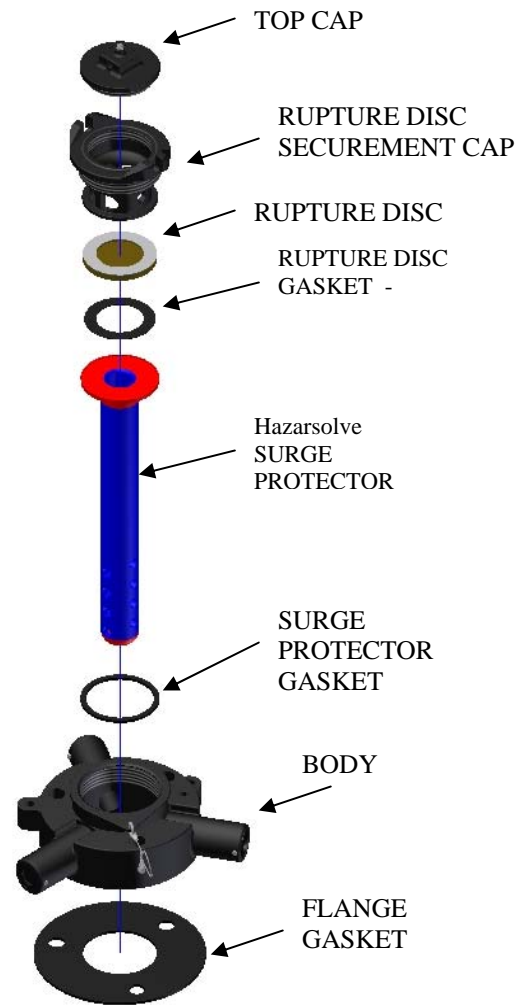

Figure 1
- a. Thoroughly inspect both sides of the rupture disc (Figure 1). Replace disc if it is missing a white gasket or clear Teflon gasket, any signs of discoloration, if the disc is blown or any other suspect condition.
6. Rupture disc. **DO NOT REMOVE ANY CLEAR TEFLON OR WHITE GASKET FROM THE DISC** (Figure 1) These gaskets should be on both sides of the disc